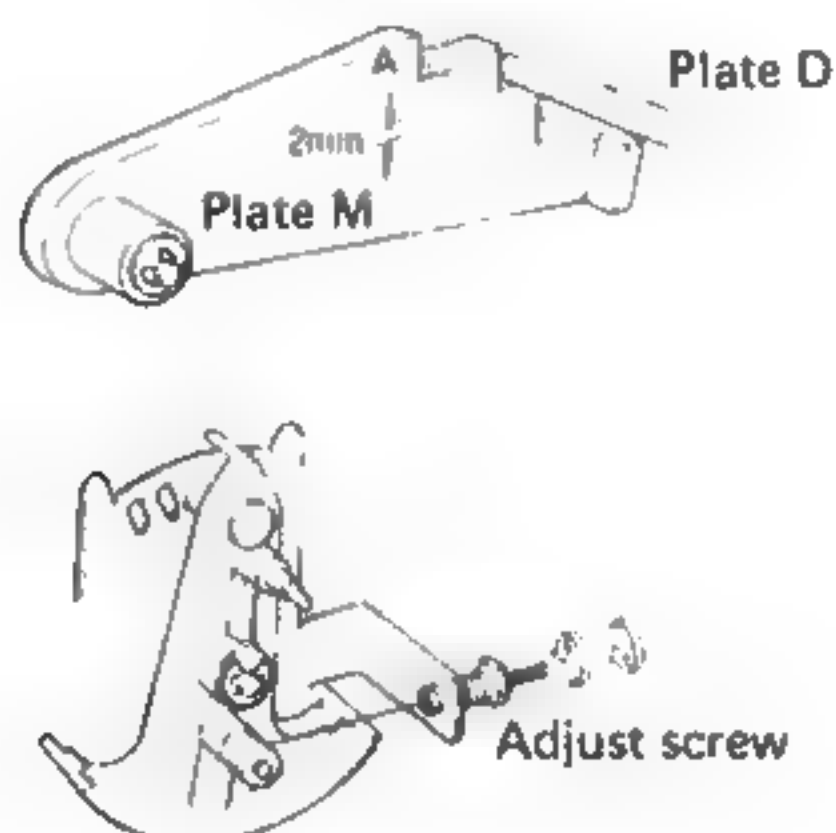

Fig. 24
2. At time of auto lead-in, when plate D has contacted plate M, turn adjusting screw so that dimension A shown in Fig. 24 becomes 2mm.